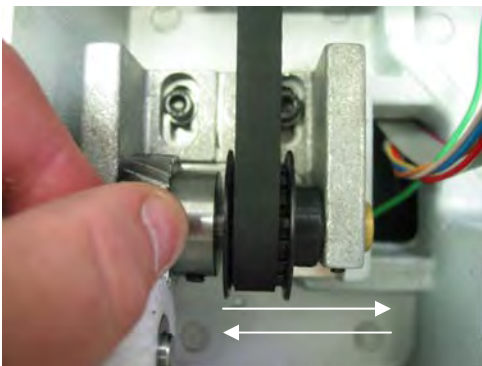

Figure 4.3
2. Check the transmission shaft by pushing and pulling axially on the gear as shown in Figure 4.3. If a correction is necessary: